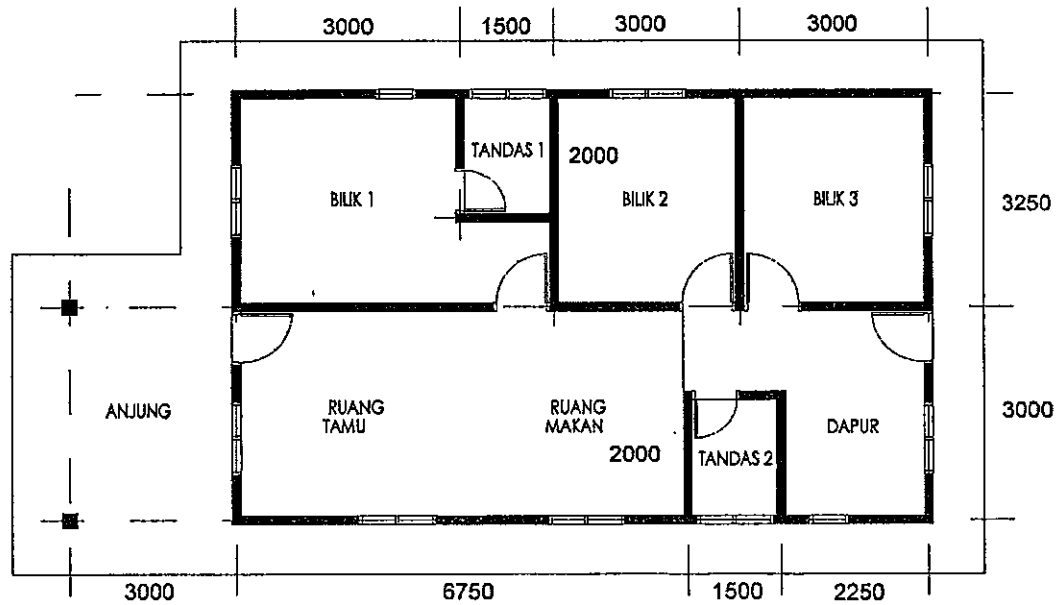

Figure B1 (c) / Rajah B1 (c): Floor Plan /Pelan lantai
- (c) Based on **Figure B1 (c)**, calculate the cost of the building using the Floor Area Method. Given the price rate is RM525.00/m² and wall thickness is 115mm. All the dimensions are measured center line to center line.